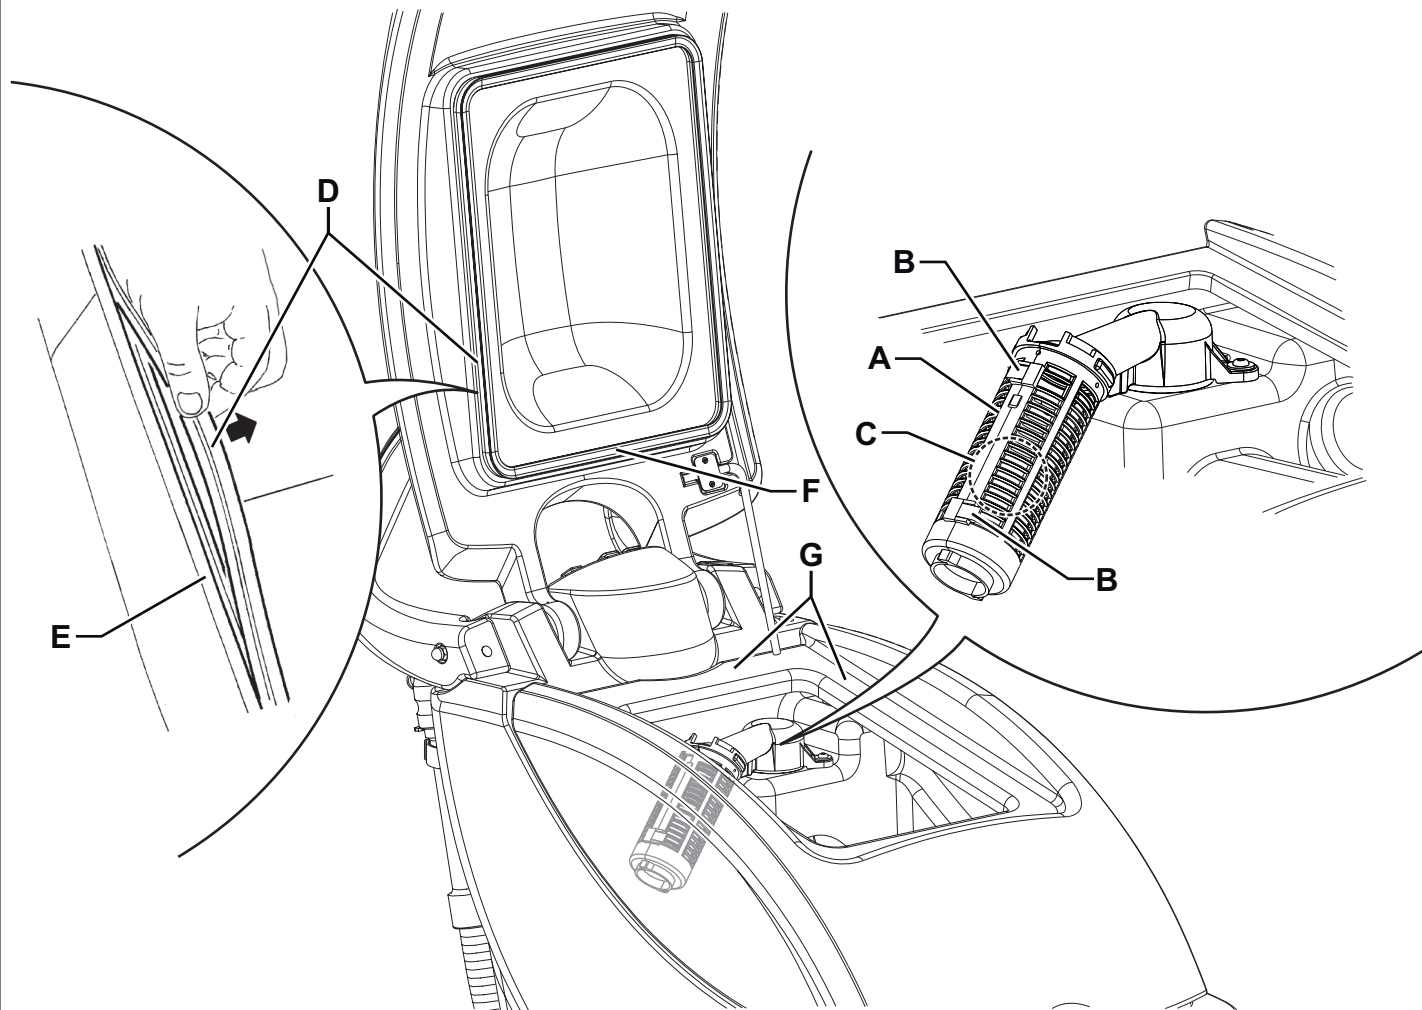

Figure 8
3. Open the recovery water cover (41), then clean and wash the cover, the tanks (30 and 31) and the vacuum grid (46) with clean water. Drain the water from the tanks with the drain hose (16) and the hose (18).
4. If necessary, release the fasteners (B, Fig. 8) and open the grid (A); recover the float (C), clean all the components and then reinstall them.
5. Check the recovery tank cover gasket (D) for integrity.
*The gasket (D) creates vacuum in the tank that is necessary for vacuuming the recovery water.*